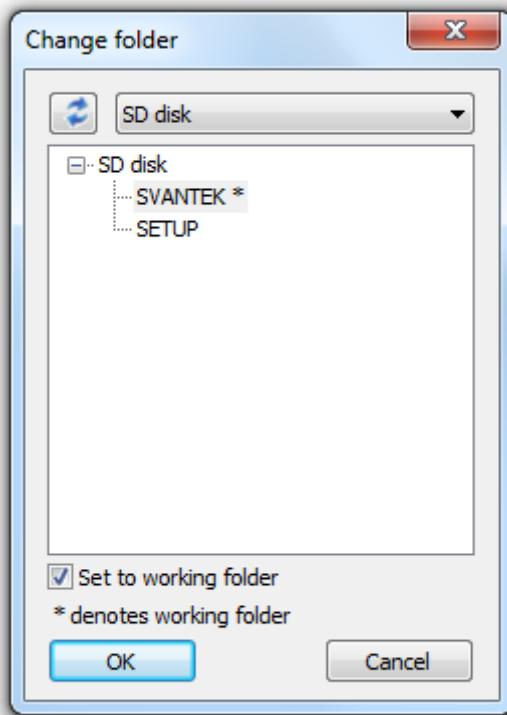

Fig.3-5 The dialog box allowing to select the directory in the Svantek instrument’s memory from which files are displayed in the Download panel.
- *Change dir* – opens the *Change folder* dialog box, allowing to select a directory in the Svantek instrument's memory from which files are displayed in the Download panel (Fig.3-5). **Note:** It is not available for some types of Svantek instruments.